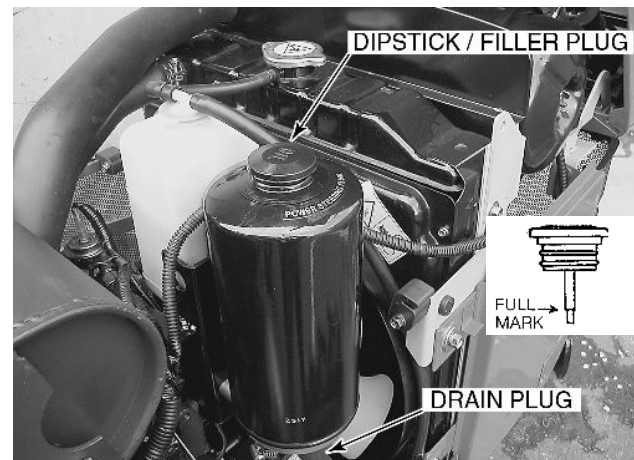

Figure 57 - Power Steering Oil Level Dipstick/Filler Plug and Drain Plug
1. With the tractor standing level and the engine off, check the oil level with the dipstick, Figure 57.
1. With the oil at normal operating temperature, drain the oil by removing the drain plug of reservoir for power steering, Figure 57. Reinstall the plug after the oil has drained. Discard the oil.
2. Remove the filler plug, Figure 57 and fill with new oil of the type specified, page 36.